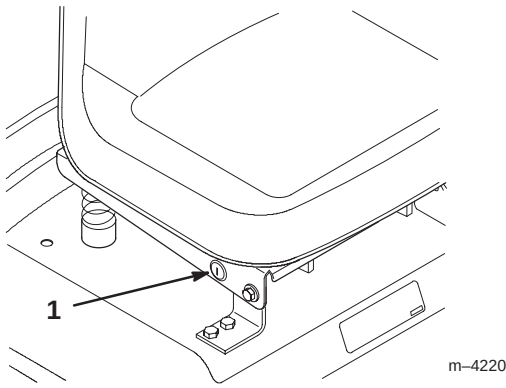

Figure 7
If you need to use the PTO while backing up, you can turn off this interlock feature using the Reverse Interlock switch located near the seat bracket (Fig. 7).
2. Insert the reverse interlock key into the switch (Fig. 7).